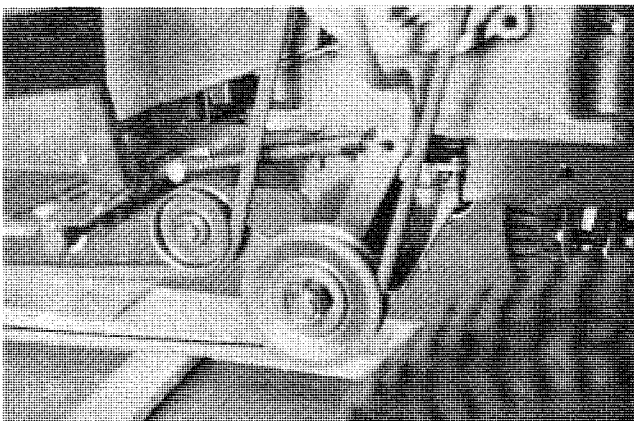

FIGURE 3A
For newer models, with brake pedal, use $\frac{3}{8}$ -16 x $2\frac{3}{4}$ bolt, item 91 and $\frac{3}{8}$ -16 nuts. Install in hole in frame in front of pedal. See Fig. 3A.